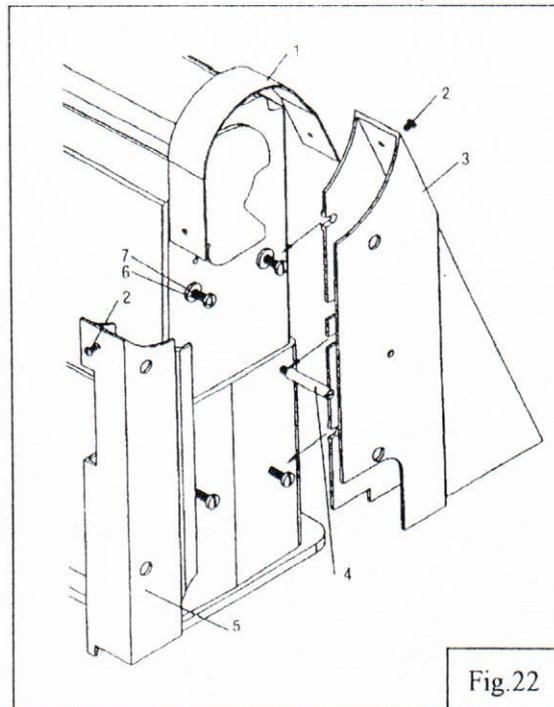

Fig.22
16. Installation of Belt cover (Fig.22):